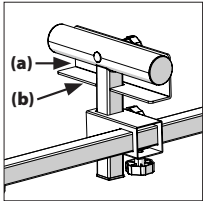

Fig. 5
- Insert the work support post into the bracket and lock in place using a locking knob. **(Fig. 5)**